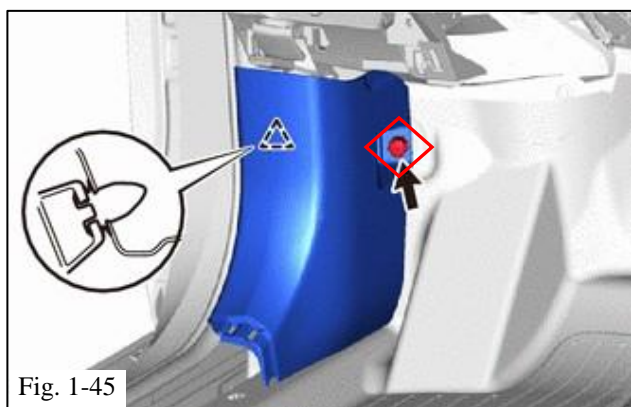

Fig. 1-45
- (1) Remove the nut ( Fig. 1-45).
- (2) Detach the clip and remove the cowl side trim board LH ( Fig. 1-45).